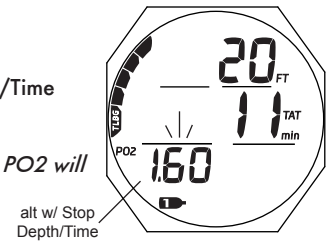

Fig. 88 - PO2 ALARM (Deco, after audible)
**High PO2 during Deco (Fig. 88)**